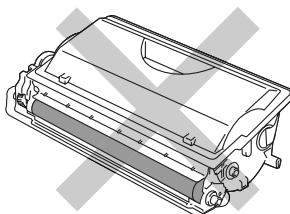

Figure 5-7
- Do not touch the shaded parts shown in Figure 5-7.